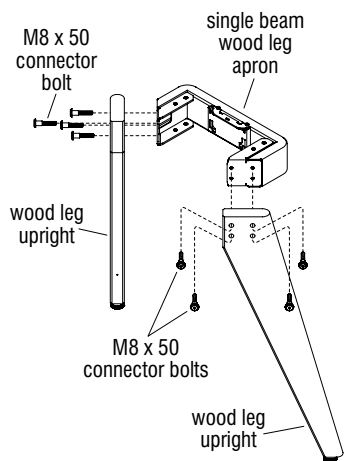

Figure 5 - Single Beam Wood Leg Unit - End Legs
1. Carefully unpack StyleLinks components, review the space-planning layout and study Figures 5 & 6 to identify parts to assemble. Position all legs and beams onto the floor per the space-planning layout (Figures 5 & 6).
2. Align the holes of the wood leg uprights with the holes on the single beam wood leg apron. Insert four M8 x 50 connector bolts with inserts through the leg and correctly positioned apron (Figure 5).